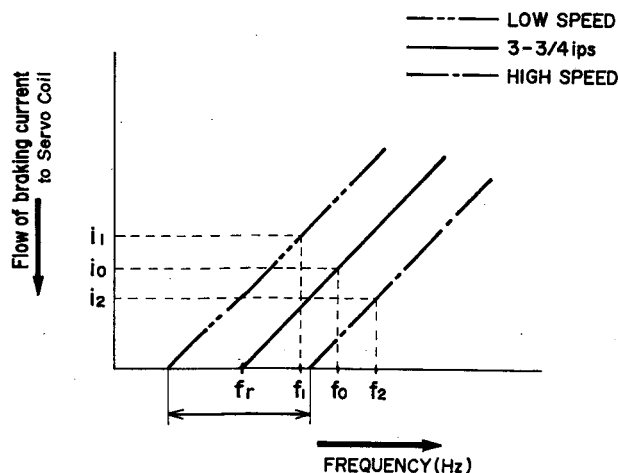

Fig. 23
6. In case of the capstan motor revolutions having reached the speed of  $n_2$ , the detector signal produced at the detector coil surpasses  $f_0$  and advances toward the higher  $f_2$  frequency. (See Figs. 23 & 24). Accordingly, the flow of current to the servo coil increases, and because the electro-magnetic braking supplied to the capstan motor is increased, the capstan motor revolutions become slower, and normal revolutions are regained.
7. In case of the capstan motor revolutions having slowed to  $n_1$ , the detector signal produced at the detector coil drops to lower than  $f_0$  and descends toward the low  $f_1$  frequency (See Figs. 23 & 24). Accordingly, the flow of current to the servo coil decreases, and because the electro-magnetic braking supplied to the capstan motor is decreased, the capstan motor revolutions speed up and normal revolutions are regained.
As shown in Fig. 23, resonance frequency  $f_r$  (between the arrow mark) is changed by adjusting the dust core of discriminator coil L-1 (V1203 1SC-01). Accordingly,  $f_0$  is also changed between  $f_1$  and  $f_2$ , and the flow of braking current ( $i_0$ ) to the servo coil is also changed between  $i_1$  and  $i_2$ . Consequently, correct tape speed can be attained by using a tape speed measuring tape and a Frequency Counter and adjusting the dust core of coil L-1.